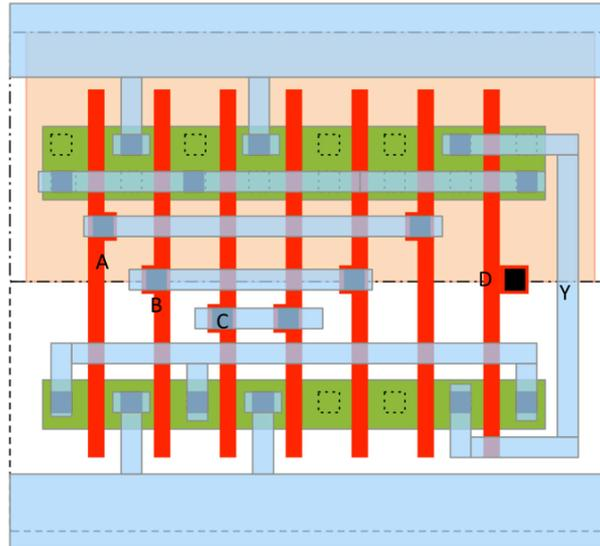

Figure 8.5: The layout for a 4-input static CMOS gate.
- b) In Figure 8.5 is the layout for a compound static CMOS implementation of a 4-input logical function. Draw the circuit schematic for the gate and find the Boolean expression for the logical function. (5 p)